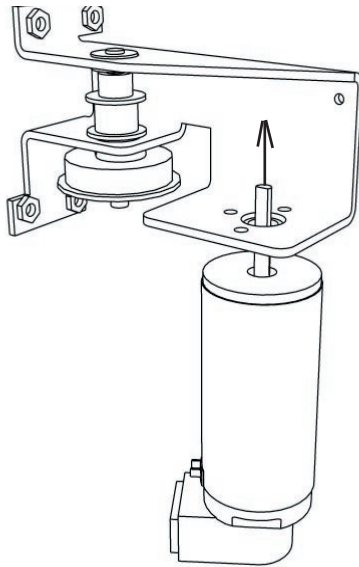

Fig. 6 - Installing the new motor
- 1) Place the shaft of the motor through the hole in the new body. See fig. 6